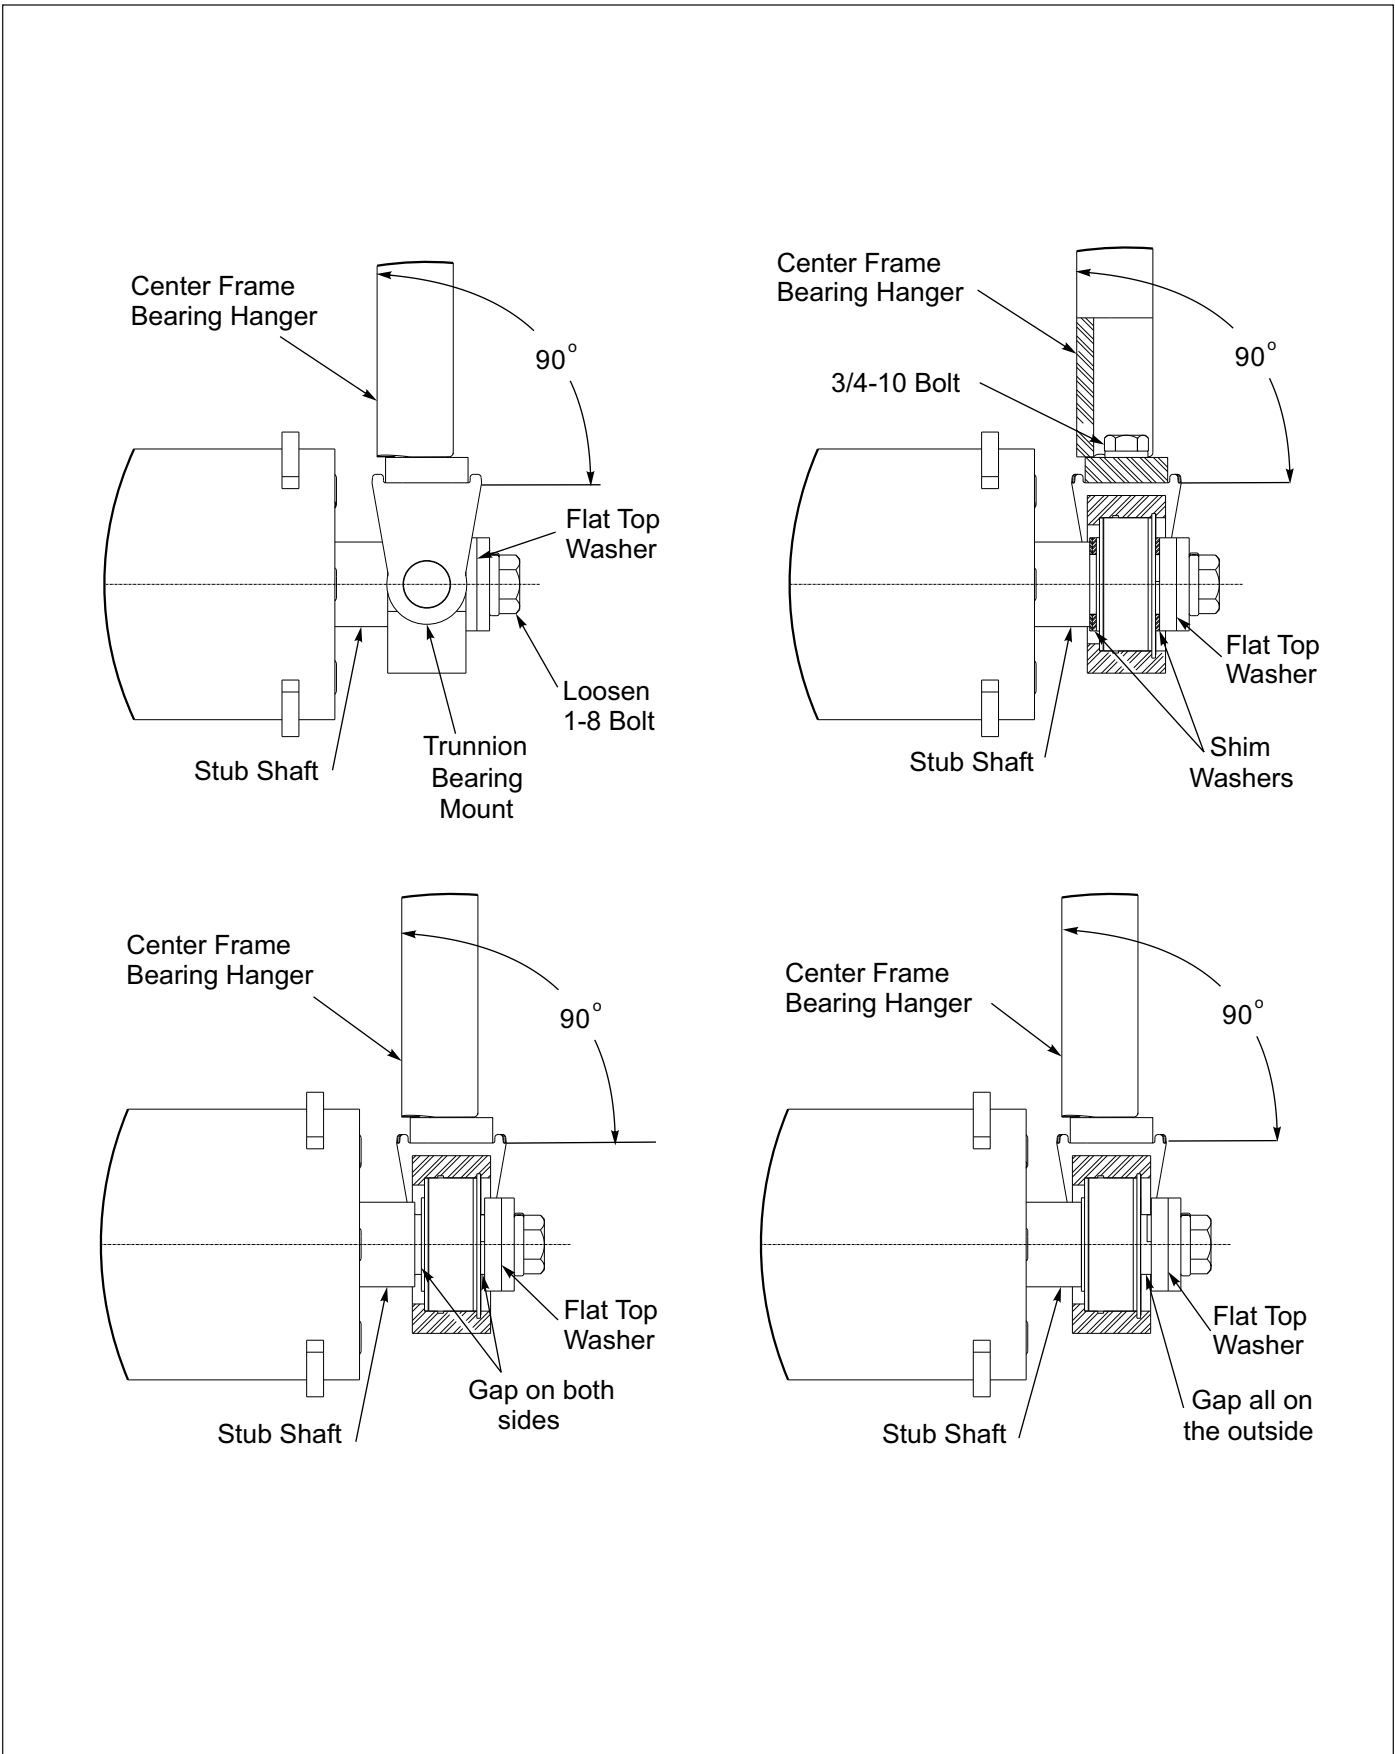

Figure 2-6: Trunnion Spacing
3. Look at each Trunnion Bearing Mount to make sure that it is sitting perpendicular to the Center Frame Bearing Hanger. **See Figure 2-6.** If not adjust the Shim Washers accordingly, for each side there are two 11ga and one 14ga Shim Washers. Shim Washers can be all three on the inside between the Stub Shaft shoulder and the Trunnion Bearing, all three can be on the outside between the Trunnion Bearing and Flat Top Washer, or a combination on either side, but all three must be used to minimize the gap. If gap cannot be properly minimized with bearing snap rings to outside, turn bearing around to have snap ring to inside. The bearing inner race is offset with respect to the trunnion bosses by 1/32". By installing bearings with snap rings in versus out, 1/16" difference can be made up at assembly if needed.